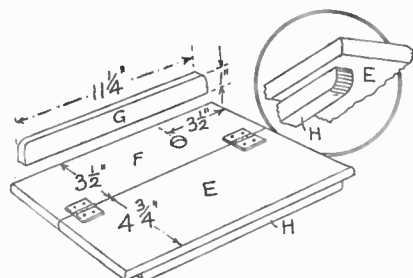
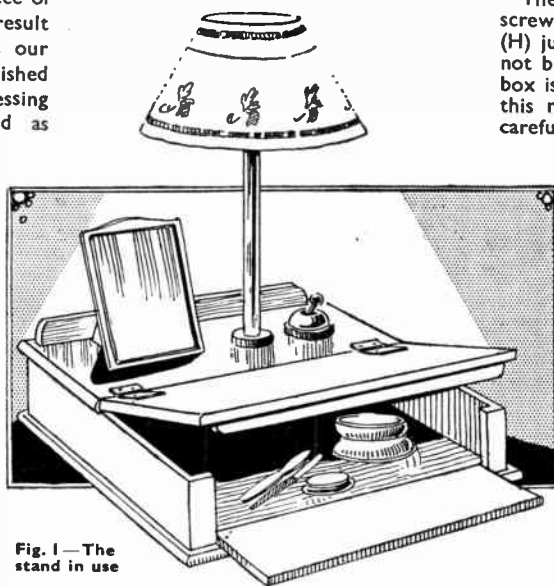

Fig. 3—Details of the hinged top
Fig. 1—The stand in use
THIS is a really interesting piece of work to undertake, and the result should be most pleasing, as our illustration Fig. 1 shows. The finished article could be used for the dressing table or the bedside table, and as regards colour or finish, this depends largely on the kind of wood used in its construction. As will be seen from Fig. 1, there is an oblong box with lid to open from the front and, if desired, with front to let down, making, in this latter case for convenience in handling the contents.
If the front of the box is to be made to open downwards, as Fig. 1, then a space of 1in. at each end of the front part (B) should be marked off and cut down and the larger piece hinged to the floor with ¼in. brass hinges. The piece of wood for the lid will be marked off, as shown in Fig. 3, and cut through on the line, and the two parts then connected by a pair of ¼in. hinges.